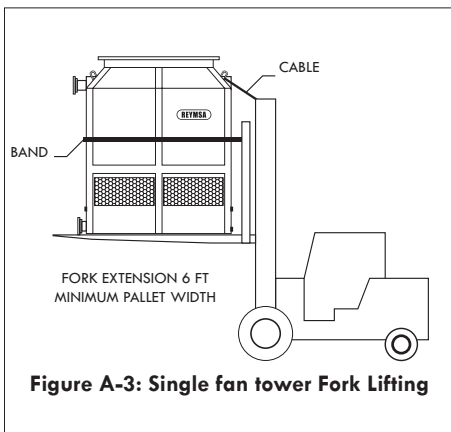

Figure A-3: Single fan tower Fork Lifting
B. After assuring the equipment is received in proper conditions, proceed to unload it from the transportation vehicle, piece by piece, with a crane or forklift of the appropriate capacity (see Figure A-3, Figure A-4 and Figure A-5 for examples). For crane lifting, it's recommended to use a minimum lifting angle of 60° between the strap and the horizontal.